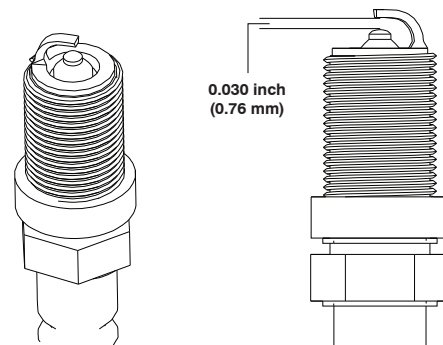

Figure 29
11. Set the gap on the plug to 0.030 inch (0.76 mm) (Figure 29).